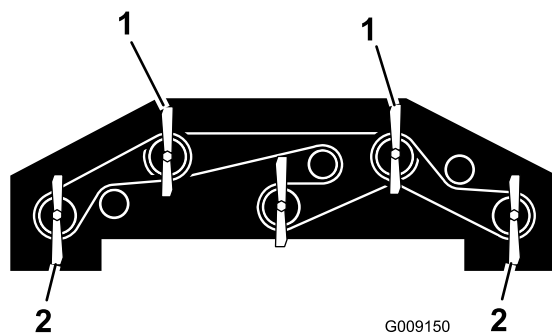

Figure 93
1. Rotate the 2 outer, front blades and the winglet blades, so that they point straight forward (Figure 93).